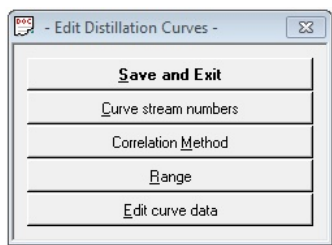

Figure 9-05: The Edit Distillation Curves menu
10. This brings up the Edit Distillation Curves menu, shown in Figure 9-05.